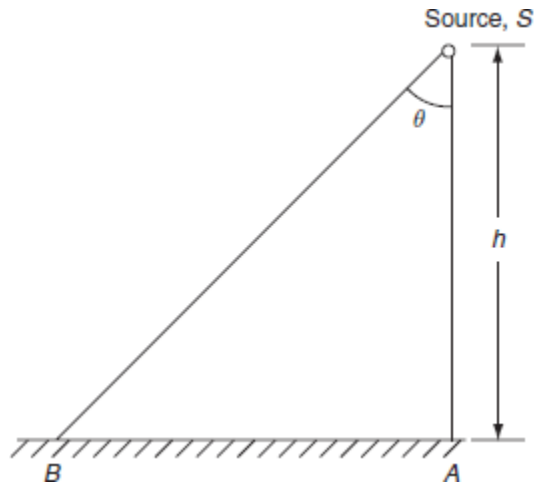

Fig. P.6.2
1. From the Fig. P.6.2, the illumination just below the lamp, i.e., at point A: